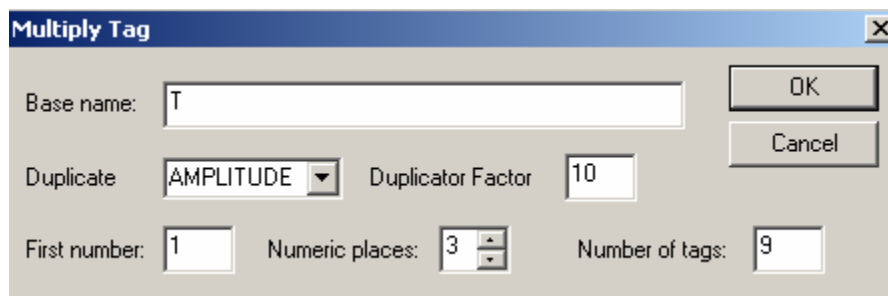

Figure 4.14. Multiply Tag Dialog Box
4. Set the **Number of tags** to 9, as shown in **Figure 4.14**. Click **OK**.